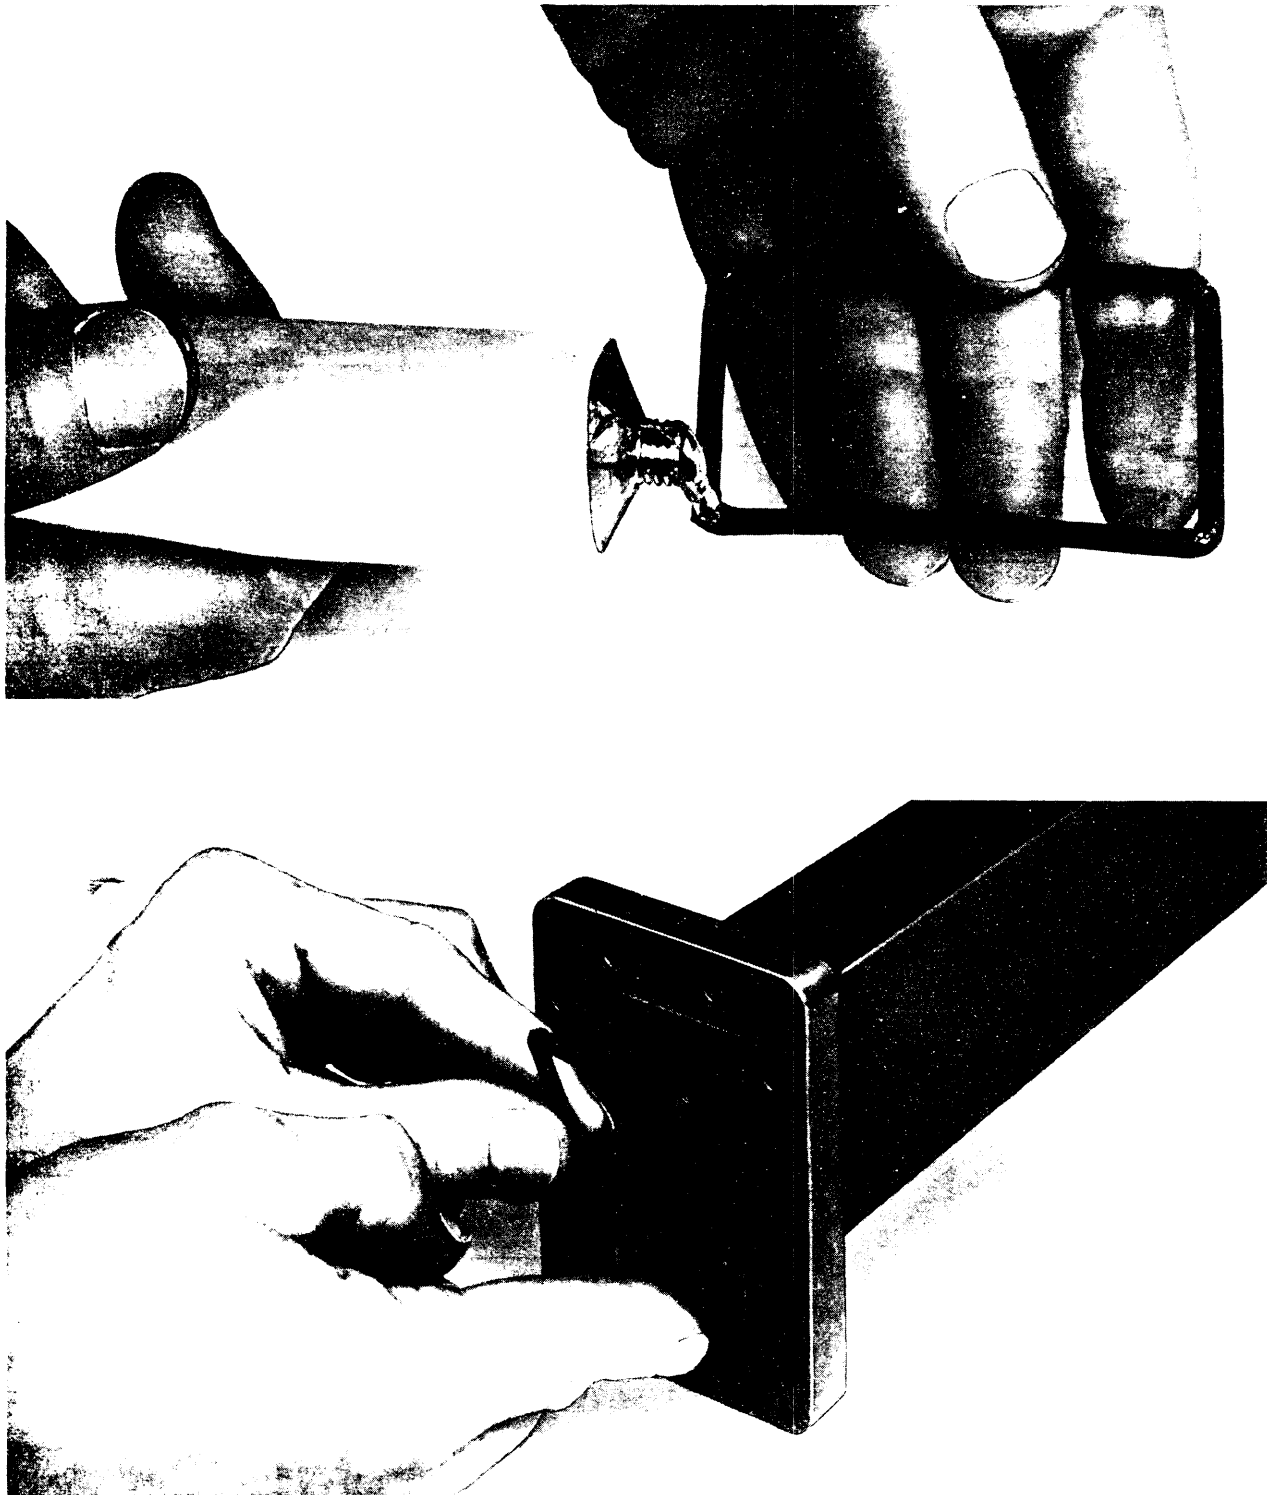

Fig. 2—Application of KS-20421, L1 Adhesive
**2.06** The gaskets supplied with all units are made from ethylene propylene rubber (EPR). Dow Corning DC-4 compound is not required for ozone protection and should not be used with EPR gaskets. The gaskets are individually packaged and marked "EPR Rubber DO NOT USE DC-4 Compound". When needed, as an aid to installation, apply a small dab of KS-20421, L1 adhesive to each corner of the gasket as shown in Fig. 2 and place the gasket in place in the flange. Make a *small* opening and apply the adhesive directly from the tube.